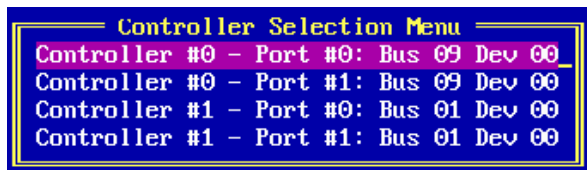
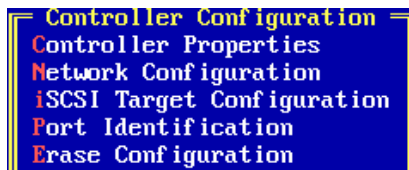

Figure 7-2 Controller Selection Menu
Figure 7-3 Controller Configuration Menu
4. Select **Controller Configuration** and press **<Enter>**. If you are running a single controller, the Controller Configuration menu is displayed (Figure 7-3). If you are running multiple controllers, the Controller Selection menu is displayed (Figure 7-2).